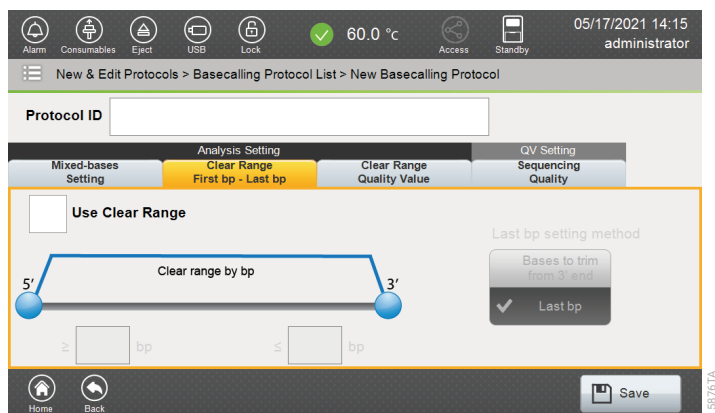

Figure 122. 'Clear Range First bp–Last bp' tab.
- Select the 'Clear Range First bp–Last bp' tab to reveal the options for setting the first and last base to consider for analysis (Figure 122).